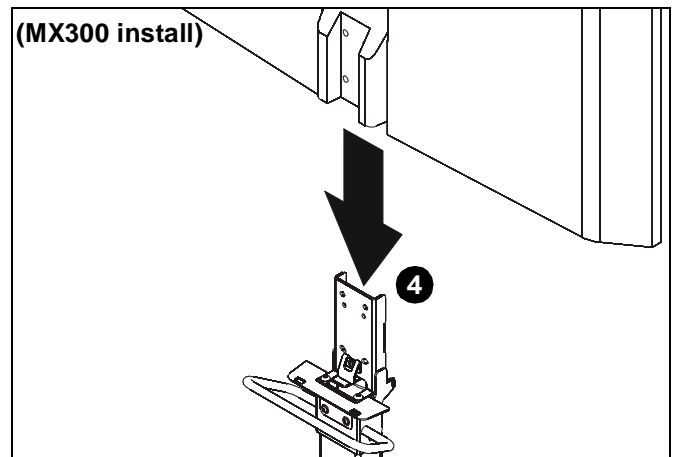

Figure 8
4. Carefully slide display onto column assembly (D). (See Figure 8)